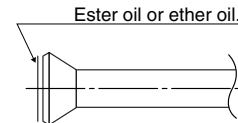

Fig. 14
- When connecting the flare nut, coat the flare section (inside) with ester oil or ether oil, rotate three or four times first, then screw in. (Refer to Fig. 14)